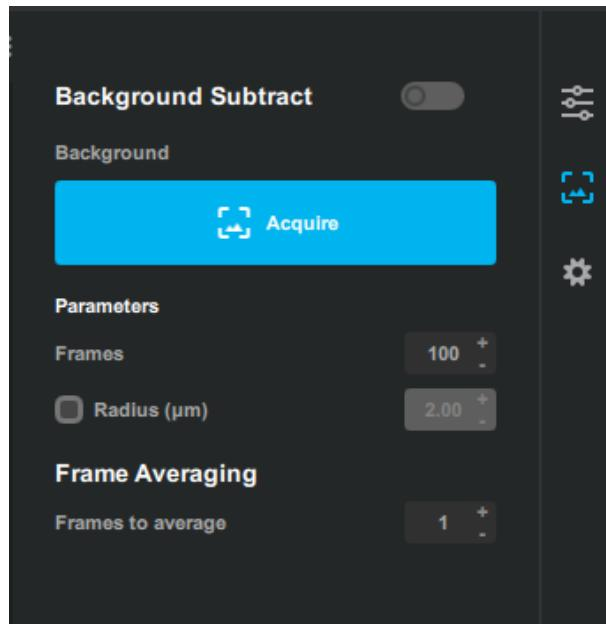

Figure 11.13.2: Figure: Background subtraction feature in Bluelake.
6. For a cleaner IRM image and to remove surface or image irregularities, you can perform a background subtraction (see Figure 11.13.2) and specify a radius (10 µm or larger) over which the nanostage can move in a circular pattern. Multiple frames are recorded as the nanostage moves in this circle, and a background image is generated. This background image can then be subtracted from the normally acquired image to remove irregularities induced by the surface. Enable the **Background Subtract** toggle after acquiring an image to perform this background subtraction.